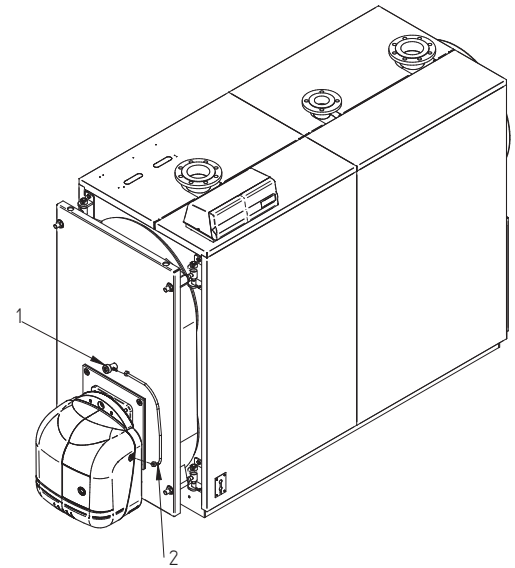

fig. 10
5.8 Connecting the flame inspection window (Fig. 10)